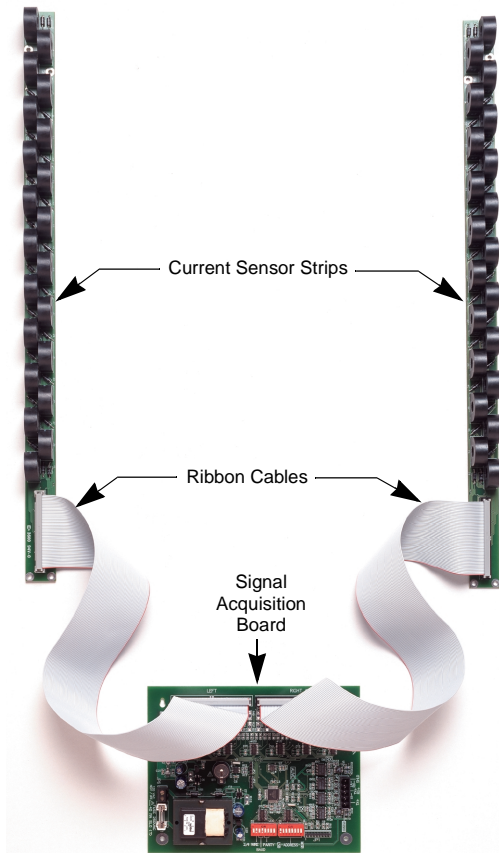

Figure 1: The BCM42 Branch Current Monitor
The BCM42 consists of a signal acquisition board, two ribbon cables, and two current sensor strips (see Figure 1). The signal acquisition board mounts directly to the panelboard or power distribution unit (PDU). The current sensor strips, each containing 21 current sensors, mount to the left and right sides of the panelboard and align with the load lugs of each branch circuit breaker. The conductor passes through the current sensor and terminates at the corresponding circuit breaker. Through the snap-on ribbon cable, each strip transmits current data to the signal acquisition board, which is equipped with an RS-485 MODBUS communication port for remote data access.
3. Snap the ribbon cables into the connectors on the signal acquisition board and snap the other end of the cables into the connector on the current sensor strips (see Figure 1 on page 1).